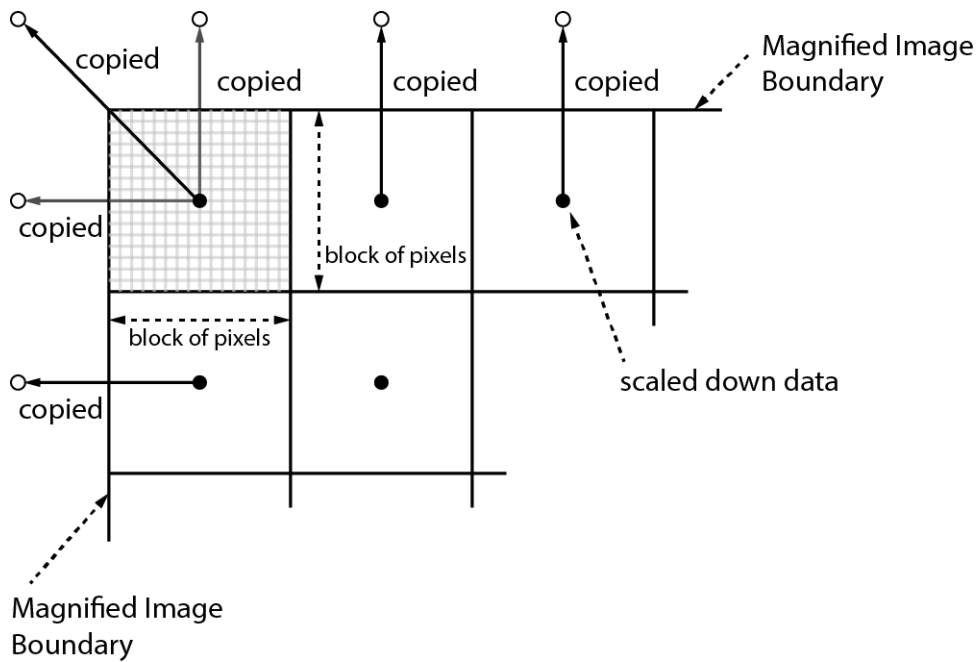

Figure 8.17 Bilinear Interpolated Magnification
4. Click the **Save to Flash** button in the **Flash Memory** category to save the generated Flat Field Correction data into the non-volatile memory. The scaled down Flat Field data will be expanded and then applied as shown in the Figure 8.17 when they are used for correction.
4. Execute the 'sfd' command to save the generated Flat Field Correction data into the non-volatile memory. The scaled down Flat Field data will be expanded and then applied as shown in the Figure 8.17 when they are used for correction.